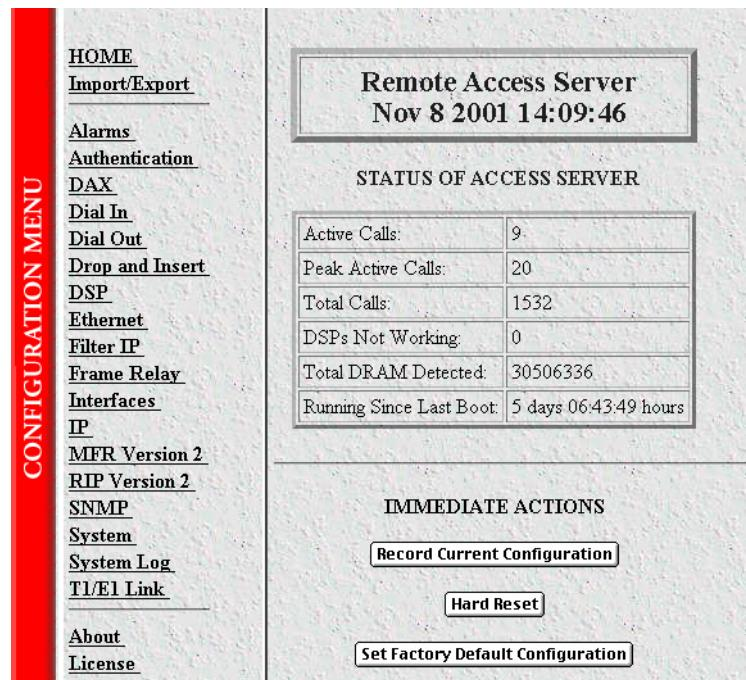

Figure 22. Home page
3. When the username and password window displays, type **superuser** as the username and password, then press <RETURN>. The Administration Pages Home window appears (see figure 22).